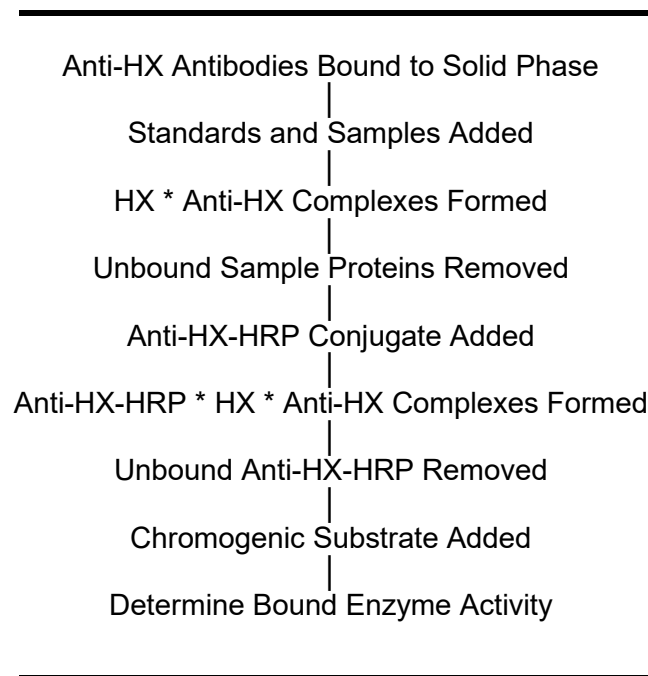

Figure 1
The principle of the double antibody sandwich ELISA is represented in Figure 1. In this assay the hemopexin (HX) present in samples reacts with the anti-HX antibodies, which have been adsorbed to the surface of polystyrene microtiter wells. After the removal of unbound proteins by washing, anti-HX antibodies conjugated with horseradish peroxidase (HRP) are added. These enzyme-labeled antibodies form complexes with the previously bound HX. Following another washing step, the bound enzyme is assayed by the addition of a chromogenic substrate, 3,3',5,5'-tetramethylbenzidine (TMB). The quantity of bound enzyme varies directly with the concentration of HX in the sample tested; thus, the absorbance, at 450 nm, is a measure of the concentration of HX in the test sample. The quantity of HX in the test sample can be interpolated from the standard curve constructed from the standards and corrected for sample dilution.